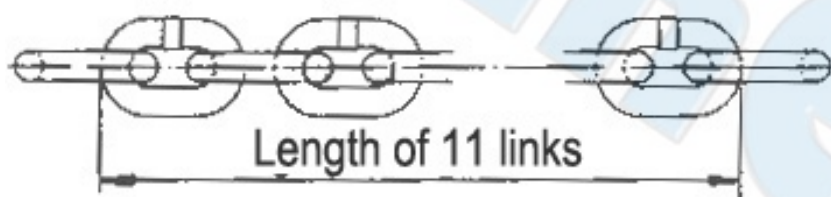

FIGURE 7
4. Check for stretch. Using caliper-type gauge, measure outside length of 11 links while under tension. Replace chain if measurement exceeds maximum allowable gauge length (FIGURE 7, TABLE 1).